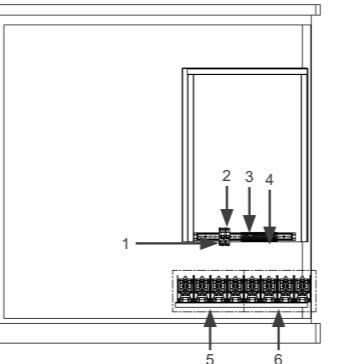

Figure 5.2: Supply voltage adjustment
3. Locate the XV terminal block set at the bottom of the Power Cabinet (Figure 5.2).
4. Using a 4 mm [0.16 in] screwdriver, remove the three (03) cables from terminals XV:R/S/T and reposition them to the R/S/T terminals marked 380, 440, 460, or 480 V, according to the desired supply voltage.
5.2.1 Direct Current (DC) Power Supply Cables
Connections to the terminals of the DC interconnection cables must be made on the busbars using ring terminals, either pre-insulated or compression type, as shown in Figure 5.2, items 5 and 6. The recommended tightening torque for the ring terminal screws is 84 Nm.